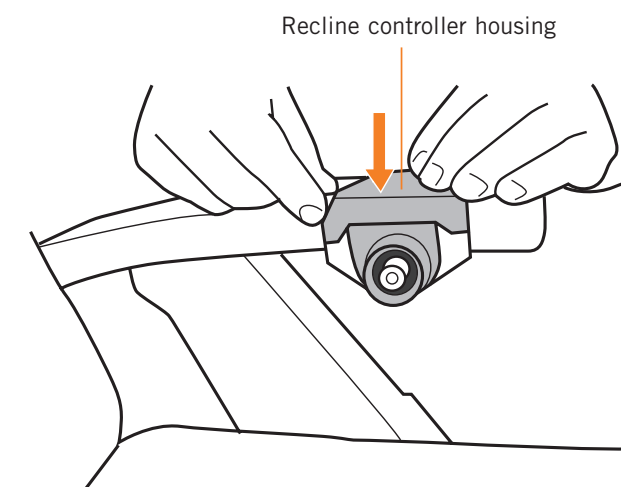

Fig.16
3. Place the housing into position on the left-hand armrest as shown (Fig.16).